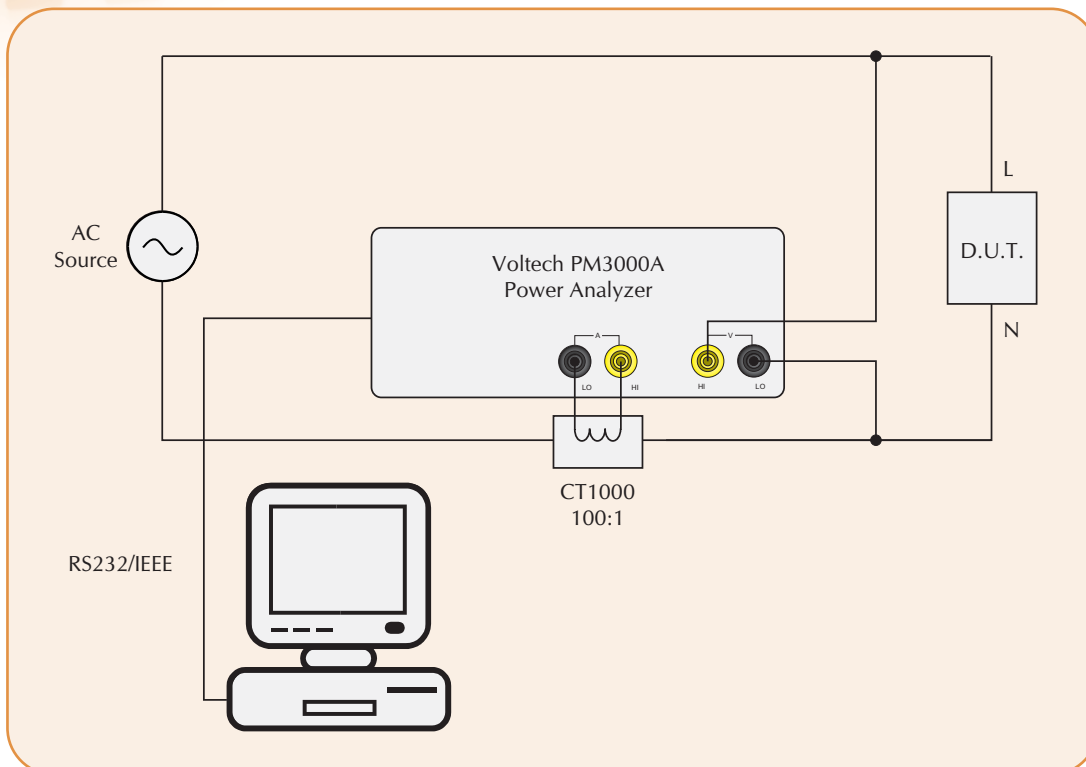

Figure 1. Measuring power and harmonics.
1. Connect up the power analyzer as shown in figure 1. The PM3000A power analyzer is suitable for direct measurements up to 30A rms. A precision current transformer such as the Voltech CT1000 (100:1) may be used to extend the measurement range up to 75A.